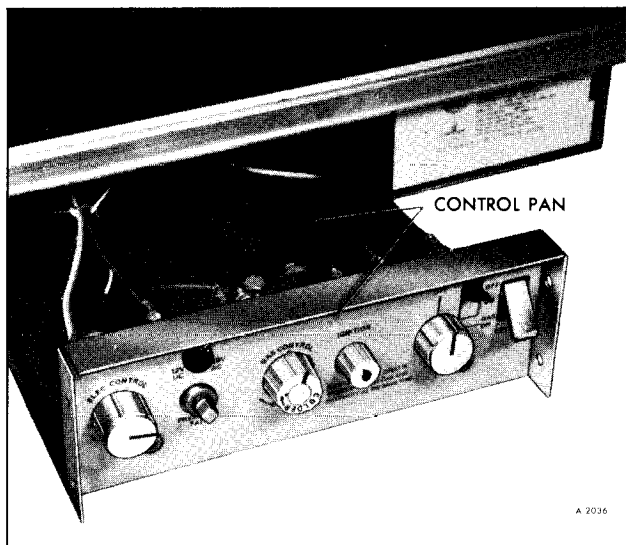

Figure 10—Control Pan (Front)
8. Slide control pan out as shown in Figure 10.
CONTROL PAN INSTALLATION (FIGURE 10)